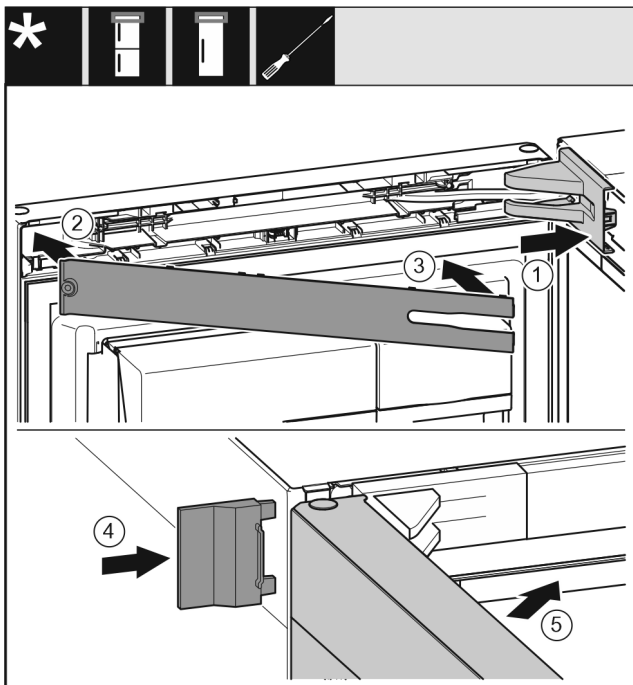

Fig. 27
- ▶ Position the bearing bracket cover and engage it. If necessary push it apart carefully. Fig. 27 (1)
- ▶ Place on the panel. Fig. 27 (2)
- ▶ Swing in the panel and latch it into place. Fig. 27 (3)
- ▶ Slide on the outer cover. Fig. 27 (4)
- ▶ Close the upper door. Fig. 27 (5)